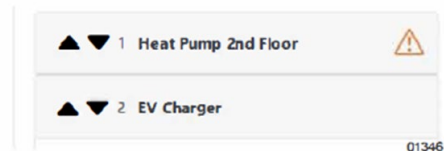

**Figure 4-9. Minimum off Time Warning Icon**
- If the homeowner attempts to restart load too soon, the app will inform it is pending and display a warning icon. See Figure 4-9. The load will start after the delay time expires.